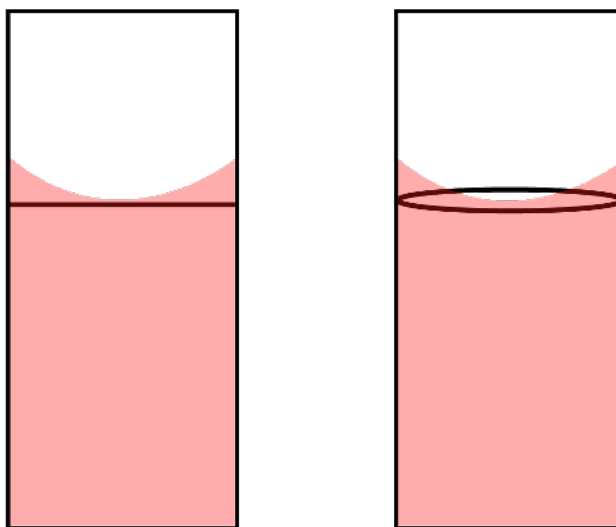

Figure 1.1: Placement of the meniscus. The left view shows what it looks like from the side, while the right view shows what it looks like isometrically.
- After filling the pipette with the bulb, quickly remove the bulb and stop the flow of water with your finger (index finger or thumb work best for most people). Use either a twisting or a rocking motion to let a small amount of water drain until the meniscus barely touches the line. See Figure 1.1.